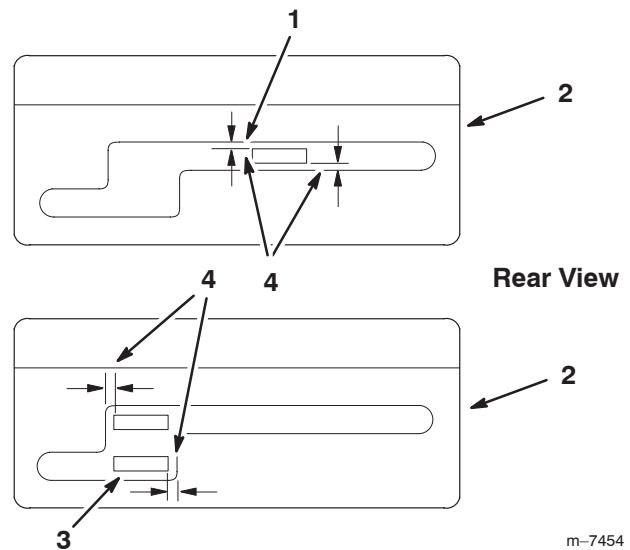

Figure 12
1. Shift lever to second gear and check alignment of lever in slot of shifter lever plate. The clearance between top and bottom of the shift lever should be equal (Fig. 12).
2. If clearance is not correct, remove lever and bend it slightly to adjust (Fig. 12).
3. Shift lever to neutral and check alignment of lever in slot of shifter lever plate. The clearance on the sides of shift lever should be equal (Fig. 12).